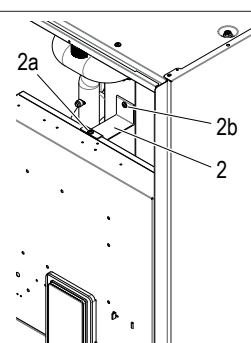

fig. 17 - view without front panel
- loosen the top screws (detail 2a - fig. 17)
**NB:** The rear fastening bracket can be removed (detail 2 - fig. 17) by removing the screw (detail 2b - fig. 17).